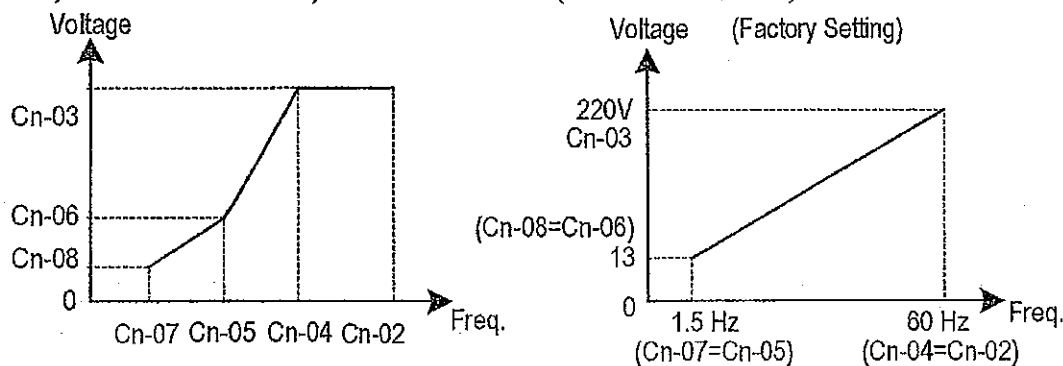

Fig. 17. User-defined V/F curve
(1) Input Voltage Setting (Cn-01)
(2) V/F Curve Parameter Settings (Cn-02~Cn-08)
- Setting Cn-02~Cn-08 can be set by the user when Sn-02 has been set to "15". The user-defined V/F curve can be specified through the settings of Cn-02~Cn-08 as shown in Fig. 17. The factory setting is straight line for the V/F curve. (Cn-05=Cn-07, Cn-06 is not used) as shown below (230V/60Hz case).
(5) Motor Rated Slip (Cn-11)
- This setting is used as a reference value for torque compensation function. See Fig. 17. The setting is 0.0~9.9% as a percentage of motor Max. voltage frequency (Cn-04) as 100%.